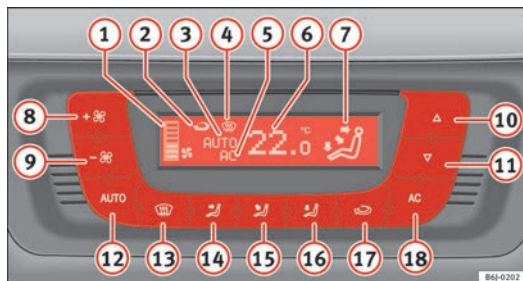

Fig. 101 Climatronic controls on the dash panel
- Press keys ⑩ and ⑪ ⇒ fig. 101 to adjust temperature.
- ① Blower level indicator.
- ② Air recirculation display:
- ③ Display **AUTO** (Automatic operation)
- ④ Demisting indicator
- Press the button **AUTO**. The indication ⇒ page 131, fig. 101  is visible.
- Press keys  and  ⇒ page 131, fig. 101 to adjust the desired temperature inside the vehicle. We recommend you adjust the temperature to 22 °C (72 °F).
- Press one of the buttons ⇒ page 131, fig. 101  to  or press the blower control  and  down. The indicator is switched off .
The blower can be adjusted with buttons  and  ⇒ page 131, fig. 101. If the blower is off (level  is not shown on the screen) and button  is kept pressed down, the Climatronic switches off. Then **OFF** is displayed on the screen.
- Press the button  to switch air recirculation mode on or off. This is ON if the symbol  ⇒ page 131, fig. 101 is displayed on the screen.